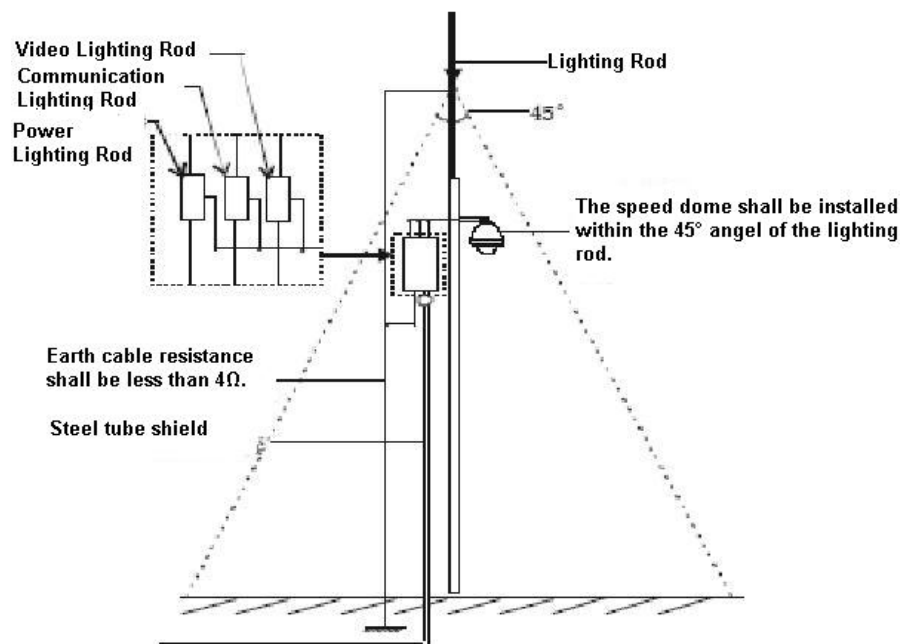

Figure 6-1
- System shall adopt equal-potential wiring. The earth device shall meet anti-jamming and at the same time conforms to your local electrical safety code. The earth device shall not short circuit to N (neutral) line of high voltage power grid or mixed with other wires. When connect the system to the earth alone, the earth resistance shall not be more than  $4\Omega$  and earth cable cross-sectional area shall below  $25\text{ mm}^2$ . See Figure 6-1.